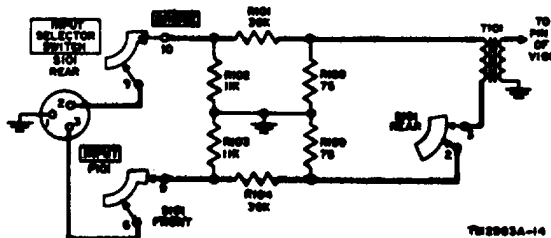

Figure 22. Bridging input circuit, simplified schematic diagram.
b. *Bridging input* (fig. 22). A bridging input circuit is a high-impedance circuit connected across a program line. The high impedance is used to prevent excessive loading of the line. The incoming signal at INPUT connector P101 is connected across a balanced input circuit consisting of resistors R102 and R103, through contacts 8 and 10 of the rear section, and 6 and 9 of the front section of switch S101. The signal from the program line is applied to the primary of T101 from the junction of voltage divider resistors R101 and R160, and the circuit is closed from transformer T101 to the junction of voltage divider resistors R104 and R159, through contacts 2 and 3 of the rear section of switch S101.